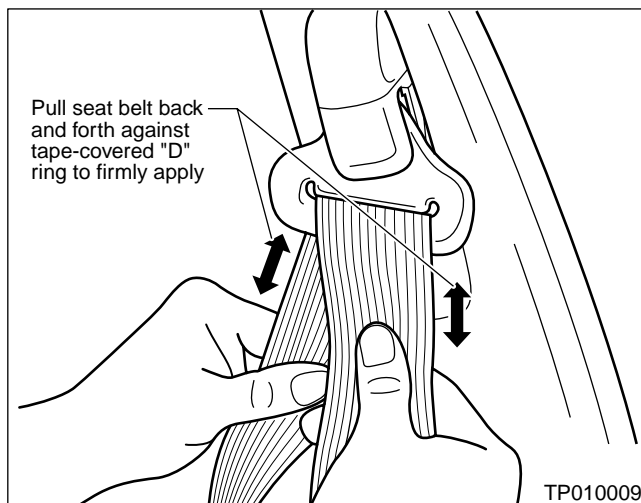

Figure 9
12. Pull the seat belt back and forth against the tape-covered "D" ring to ensure that the tape is firmly applied (see Figure 9).